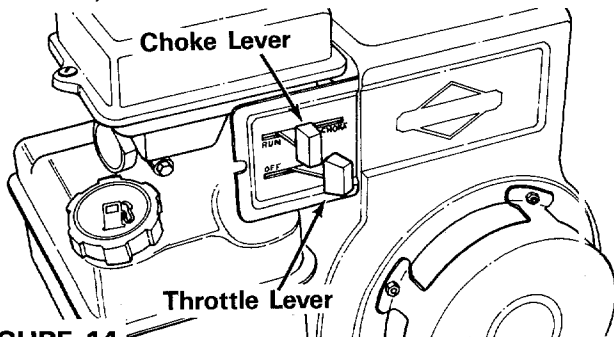

FIGURE 14
1. Place throttle control lever on the engine in FAST position. See figure 14.